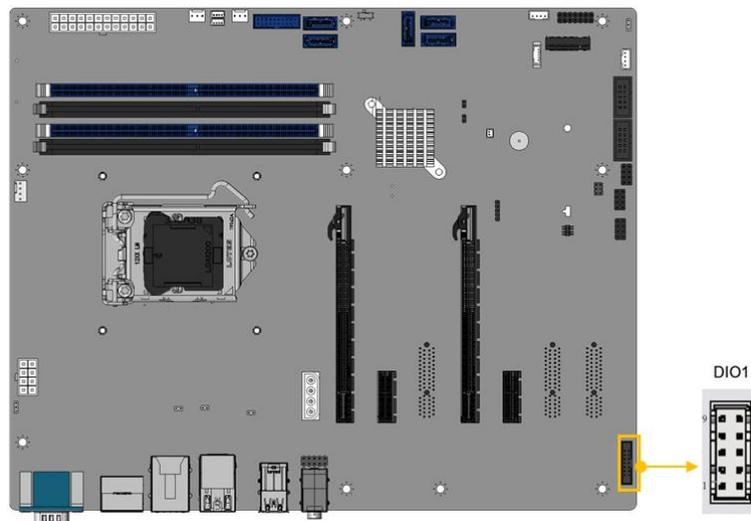

Figure 3-6: Digital Input / Output Connector Location
- CN Location:** See **Figure 3-6**